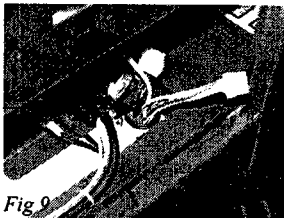

Fig 9
11. Offer the Floor to the machine and fit the Flexipipe Elbow Joint into the recess as shown in Fig 9.